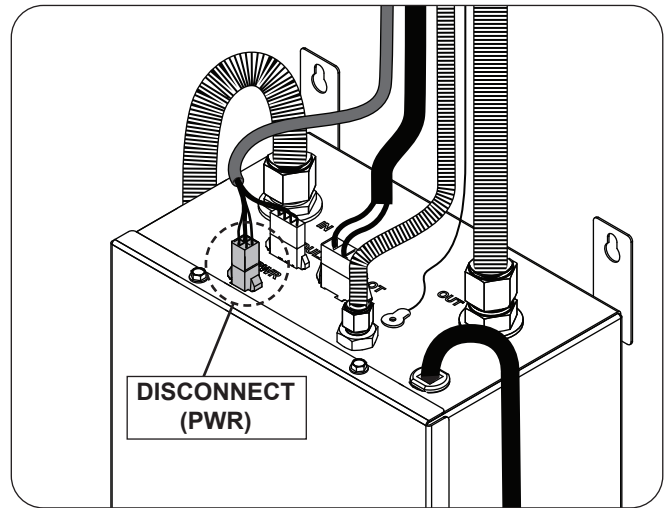

Fig. 36-1 Disconnect power source connector
1. Disconnect the power source connector (PWR) from the control box (see Fig. 36-1).